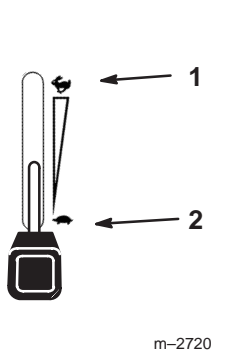

Figure 17
5. Move the throttle control to the “FAST” position before starting a cold engine (Fig. 17).
- Move the throttle lever to “SLOW” (Fig. 17).